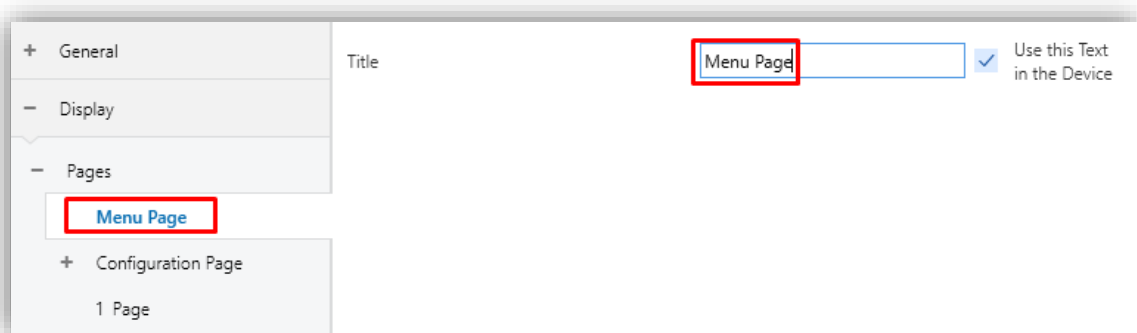

Figure 55. Menu
- **Title:** text field that identifies the menu pages. In addition, this field allows changing the name of the tab in ETS left menu, as shown in the Figure 55.